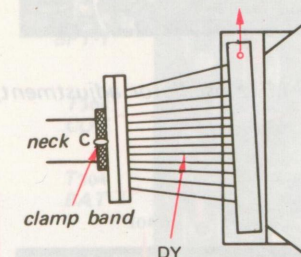

Fig. 3-14. Movement of deflection yoke
2. Loosen the clamp band labeled C in Fig. 3-14.